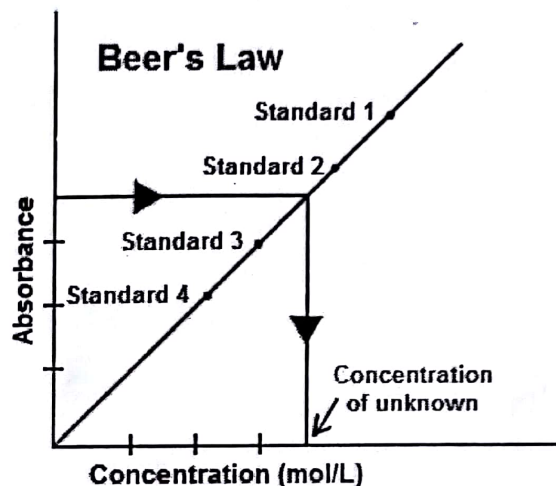

Fig. 2: Model calibration curve for Ni(II) determination
Dimethylglyoxime (DMG) reacts with nickel ions and forms a pink-colored  $\text{Ni}(\text{dmg})_2$  complex in alkaline medium. It gets oxidized by potassium ferricyanide ( $\text{K}_3[\text{Fe}(\text{CN})_6]$ ) in alkaline medium to form a brown-red, water soluble oxidized  $\text{Ni}(\text{dmg})_2$  complex as shown in the Scheme 1. Absorption spectrum of the oxidized complex shows absorption maxima at a wavelength of 440 nm (Fig. 1). Concentration of Ni in the given unknown sample is determined from the calibration graph as shown in Fig. 2.
**Procedure:** Take 6 standard 100 mL volumetric flasks (including the unknown). To every flask add 1 mL of DMG solution followed by 1 mL of  $\text{K}_3[\text{Fe}(\text{CN})_6]$  solution using a burette. Further, add 1, 2, 3, 4 and 5 mL of the working Ni stock solution (100 ppm) from a burette to get 1, 2, 3, 4 and 5 ppm of steel containing nickel(II) solutions. All the flasks are shaken well and made up to 100 mL mark with 1N  $\text{NaOH}$  solution. Allow the flasks at least 15 minutes after adding all the reagents for the complete complex formation. Then the absorbance of the formed brown-red solution is measured at 440 nm against distilled water (blank). Record these absorbance readings in Table 1. Draw a calibration graph taking concentration of  $\text{Ni}^{2+}$  (in ppm) as X-axis and absorbance readings as Y-axis. A straight line that passes through the origin (see Fig. 2) is an indication that the measured data obeys Beer's